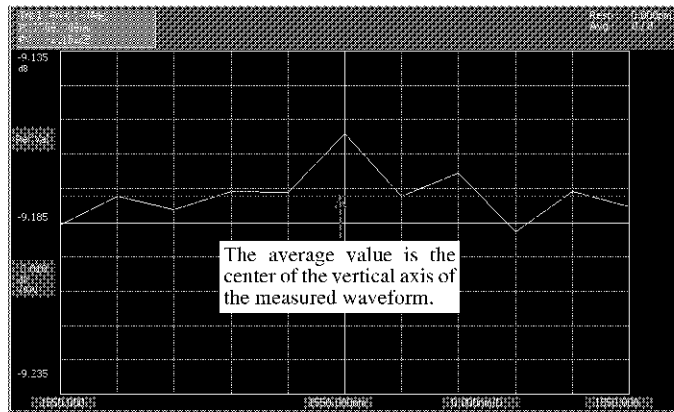

Figure 2-9 Reading Average Value of Magnitude Characteristic Linearity (Dispersion Measurement Mode)
18. After the measurement is completed, execute Auto Scale and read the average value of the waveform, using the cursor and referring to Figure 2-9. Enter the value into the corresponding column on the performance verification sheet as the measurement value for “deducting 5 dB from the reference value”.